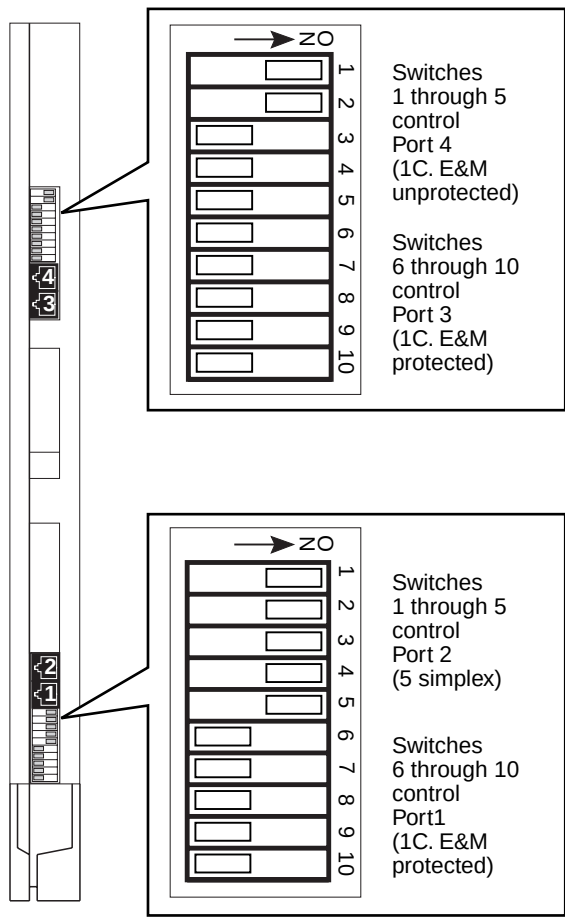

Figure 2-11. 400EM Module Sample Dip Switch Settings for Signaling Types 1C and 5
- ▶ **1. For each 400EM tie line/trunk module, for jacks numbered 1 through 4 in Figure 2-11, check Form 3c, Incoming Trunks: Tie, for E&M signaling type.**
Set the dual in-line packaging (DIP) switches on the front of the 400EM Tie Trunk module according to the E&M signaling type settings listed in Table 2-4 on page 2-36 and Table 2-5 on page 2-37 and shown in Figure 2-11 on page 2-38. The default E&M signal does not require any adjustments in the DIP switches.
During installation of 400EM (Tie Trunk) modules, refer to Table 2–4 and Table 2–5, and to Figure 2-11 on page 2-38 for the correct DIP switch settings for varying signaling protocols.